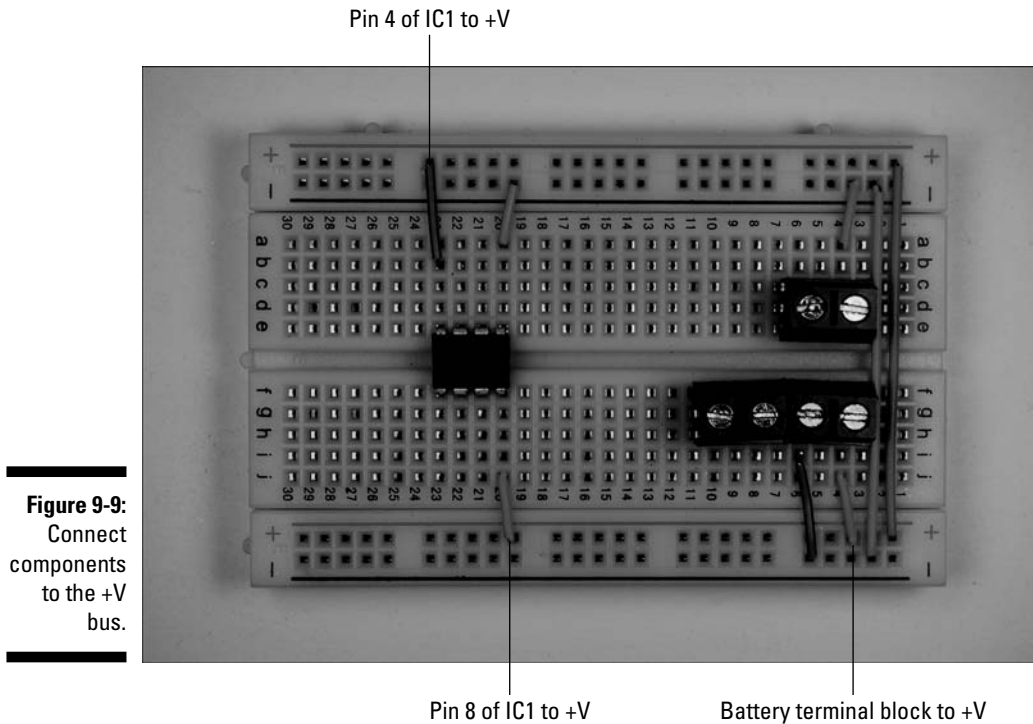

Figure 9-9:
3. Insert wires to connect the IC and the terminal block for the battery to the +V bus, as shown in Figure 9-9.